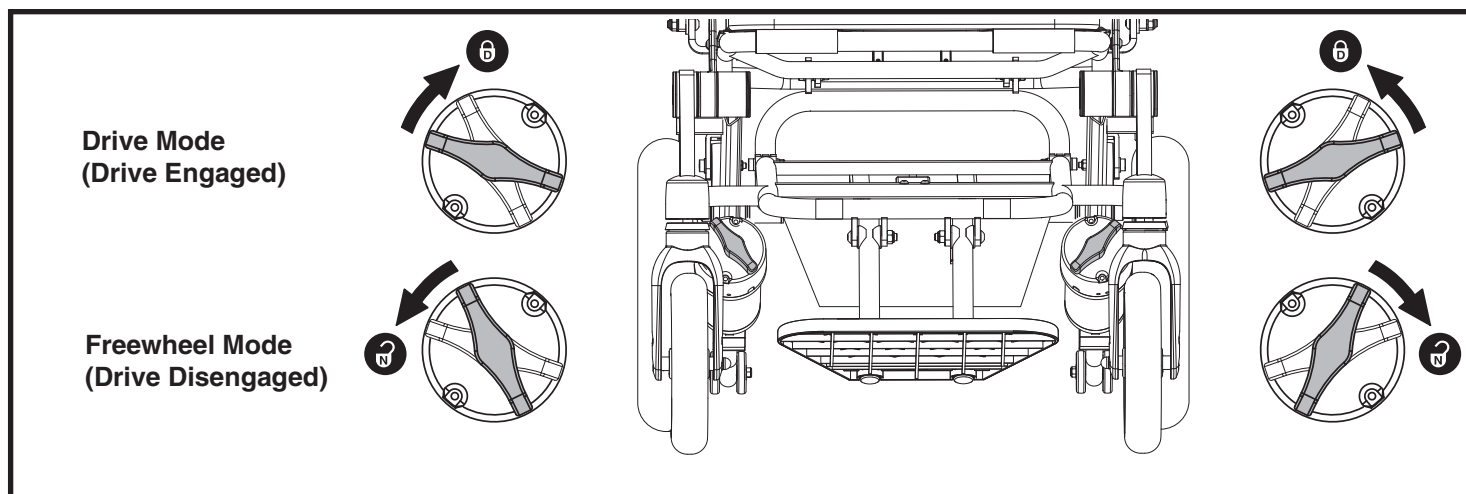

Figure 3. Freewheel Levers
1. Locate the lever on each motor. **See figure 3.**
2. Rotate the manual freewheel levers outward to disengage the drive motors (freewheel mode). **See figure 3.**
3. Rotate the manual freewheel levers inward to engage the drive motors (drive mode). **See figure 3.**